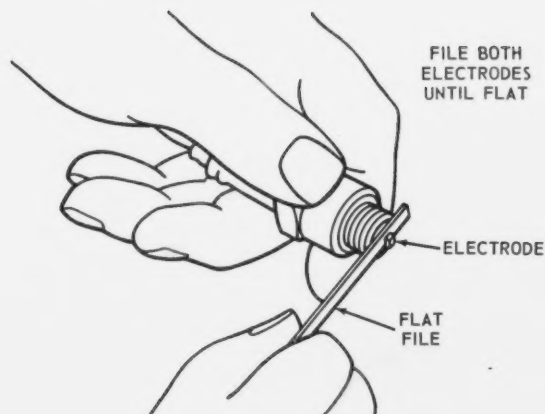

Fig. 39—Filing Spark Plug Electrodes Until Flat
6. File both electrodes (Fig. 39) until they have flat bright surfaces (like a new plug). However, remove as little material as possible.